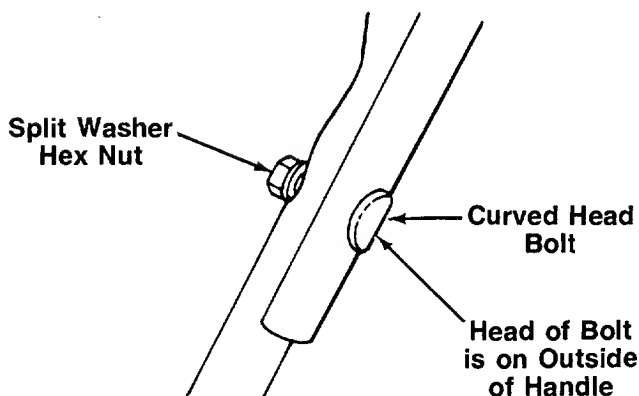

FIGURE 4.
2. Secure the left hand side of upper handle using the curved head bolt, split washer and hex nut as shown in figure 4.